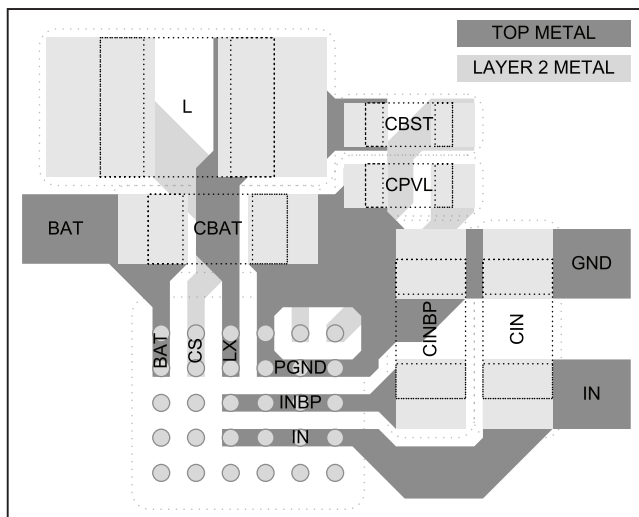
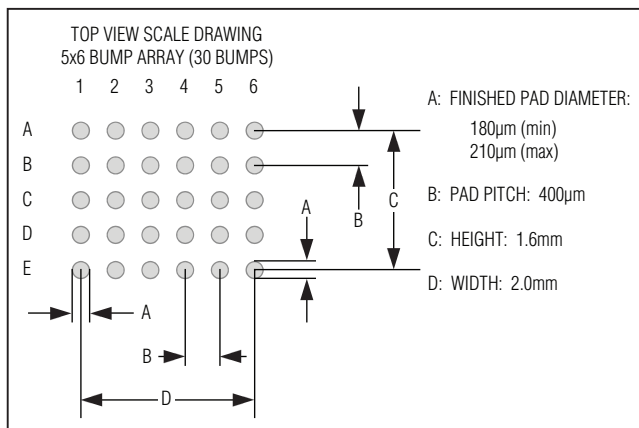
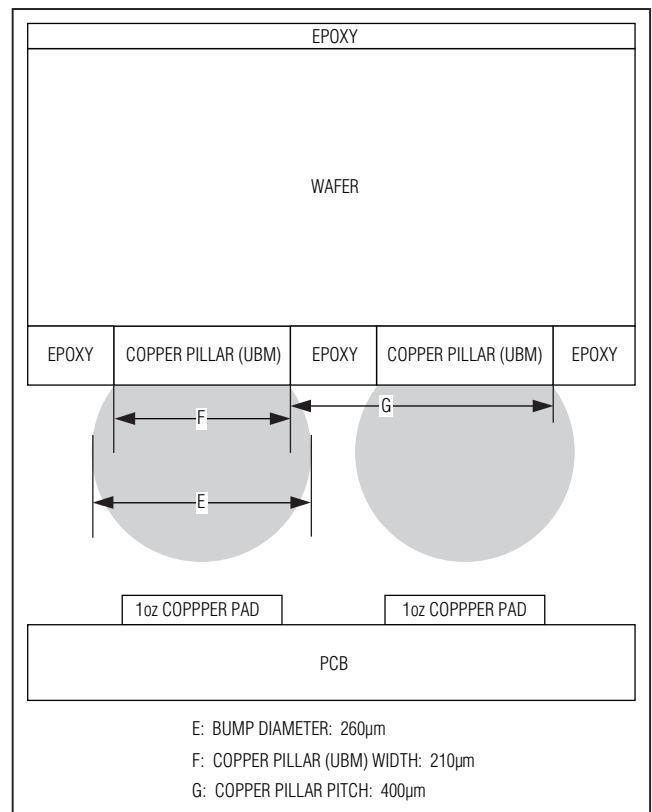
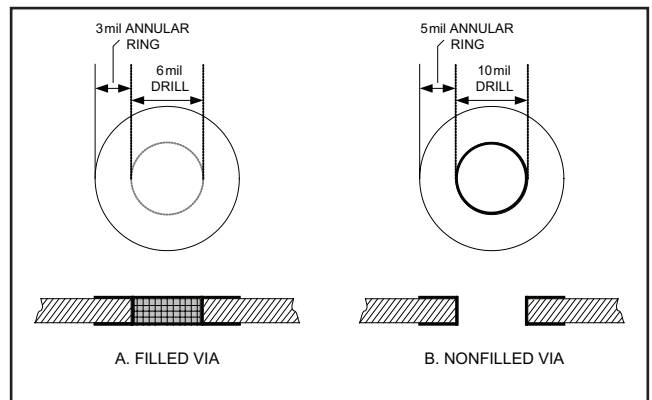

Figure 4. Power PCB Layout Example
Figure 5. Recommended Land Pattern
Figure 6. Bump Cross Section and Copper Pillar Detail
Figure 8. Via Details
The MAX8900\_ wafer-level package (WLP) and bump configuration allows for a small-size, low-cost PCB design. Figure 4 shows that the 30 bumps on the MAX8900\_ WLP are combined into 18 functional nodes. The bump configuration places all like nodes adjacent to each other to minimize the area required for routing. The bump configuration also allows for a layout that does not use any vias within the WLP bump matrix (i.e., no micro vias). To utilize this no-via layout,  $\overline{CEN}$  is left unconnected and the STAT3 pin is not used (2-pin status version). Note that although layouts without micro vias are possible, this EV kit uses filled micro vias that are on the WLP pads of the MAX8900A (A2, A5, A6, B2, C2, D2, and E6). These filled micro vias on pads were used to showcase the small solution size.
Figure 5 shows the recommended land pattern for the MAX8900\_. Figure 6 shows the bump cross section of the MAX8900\_ under-bump metal (UBM). The diameter of each pad in the land pattern is close to the diameter of the UBM. This land pattern to UBM relationship is important to get proper reflow of each solder bump. Note that although layouts without micro vias are possible, this EV kit uses filled micro vias that are on the WLP pads of the MAX8900A (A2, A5, A6, B2, C2, D2, and E6). These filled micro vias on pads were used to showcase the small solution size.
Careful printed circuit layout is important for minimizing ground bounce and noise. Figure 4 is an example layout of the critical power components for the MAX8900\_. The arrangement of the components that are not shown in Figure 4 is less critical. Figures 8–10 show the entire layout of the MAX8900A EV kit and Table 6 shows the EV kit construction attributes. To ensure a successful layout for the MAX8900A, use the following list of guidelines and refer to Application Note 1891: *Wafer-Level Packaging (WLP) and Its Applications*, which is available at [www.maxim-ic.com](http://www.maxim-ic.com).
- 5) In Figure 4, the CS node is connected to the second layer of metal with vias. Use low-impedance vias capable of handling 1.5A of current. Also, keep the routing inductor current path on layer 2 just underneath the inductor current path on layer 1 to minimize impedance.
- 6) Both  $C_{BST}$  and  $C_{PVL}$  deliver current pulses for the MAX8900\_'s MOSFET drivers. These components should be placed as shown in Figure 4 to minimize parasitic impedance.
In Figure 4, many of the top-layer bump pads are connected together in top metal. When connecting bumps together with top-layer metal, the solder mask should define the pads from 180 $\mu$ m to 210 $\mu$ m, as shown in Figure 5. When using solder-mask defined pads, double-
VIA UNDER WLP:	6 mil drill and 3 mil annular ring on top and bottom layers, filled via (Figure 8)
VIA ON REMAINING AREA OF PCB:	10 mil drill and 5 mil annular ring on top and bottom layers (Figure 8)